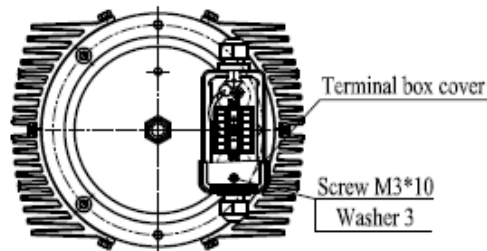

Figure 28 Emergency Brake Terminal box
2. Remove the terminal box cover. Disconnect the wiring to the brake. See Figure 28.